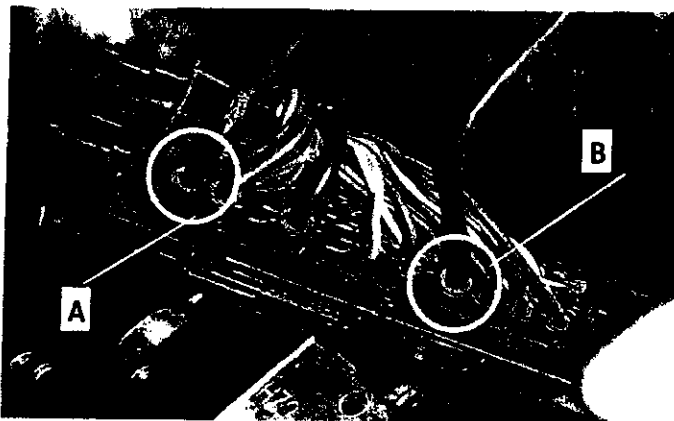

Figure 9: A = pin 37, B = pin 44
10. Remove pin 37 and pin 44 (Figure 9) from the SBC connector housing using cable release tool (W 000 589 13 99 30 and W 220 589 01 99 50), otherwise the SBC connector housing can be damaged.
13. **Very loosely** wrap the exposed cable of the SBC wiring harness (**excluding** the lines of the ground wiring harness) using adhesive fabric tape (Figure 9). Do not wrap more than 2 layers deep.